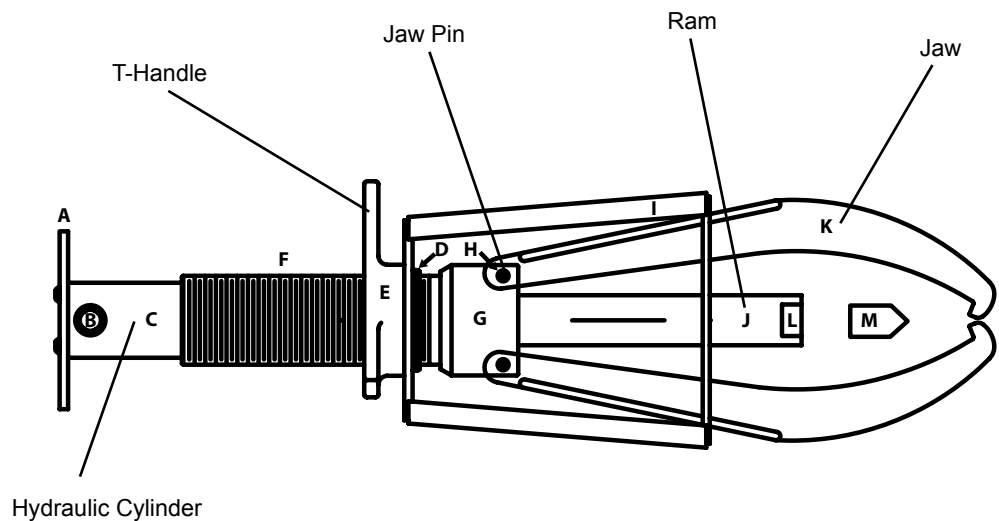

Figure 2 - Hydraulic Gear Puller
1. Place pump at a higher elevation than the hose and cylinder as shown in Figure 2.